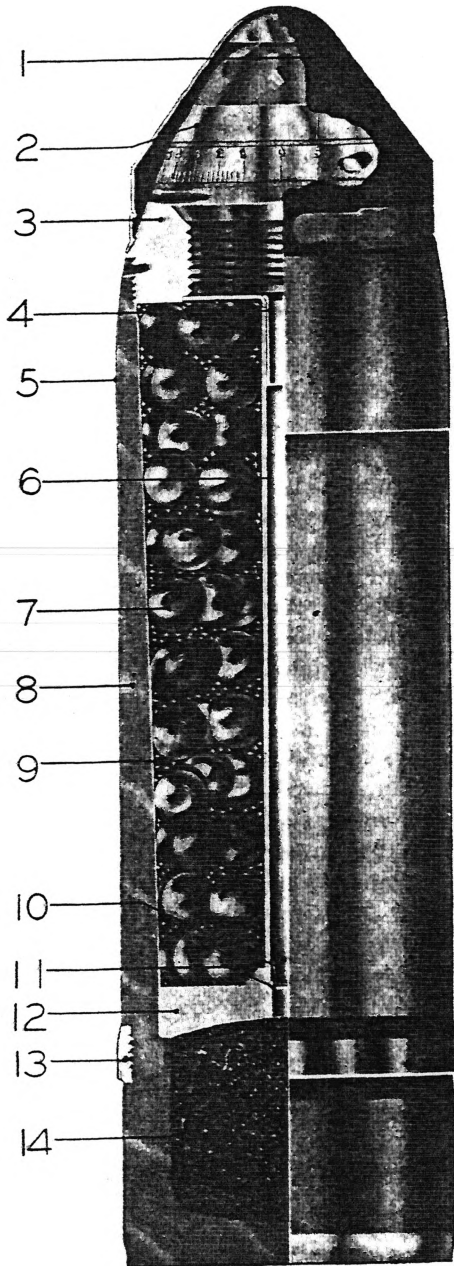

FIG. 7.—75-mm. shrapnel
11. **Shrapnel, Mk. I.**—*a. Description.*—The Mk. I shrapnel is shown in Figure 7. The base or bursting charge consists of 3 ounces of black powder, which is placed in the base of the projectile. A steel diaphragm acts as a cover for the base charge and supports the balls and matrix. The shrapnel also carries a central tube which conducts the flame from the fuze to the base charge. The shrapnel filling is composed of about 270 lead balls approximately  $\frac{1}{2}$  inch in diameter, averaging 42 to the pound, the total weight of the balls being about 6 pounds 7 ounces. The balls are held in a matrix of melted resin poured into the shrapnel case during the loading of the balls. A steel head closes the shrapnel case and forms an adapter for the 21-second combination fuze.
*e. Fuze.*—The 21-second combination fuze, M1907M, is used with the Mk. I shrapnel. Figure 7 shows this shrapnel with the fuze attached. All shrapnel are issued fuzed with the fuze set at safe. Great care should be used to keep the complete round in a dry condition.